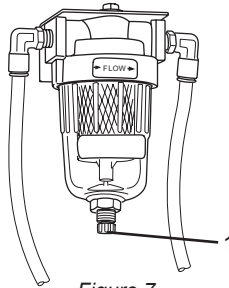

Figure 7
1. Locate the drain fitting on the bottom of the coalescing filter (Figure 7, Item 1).